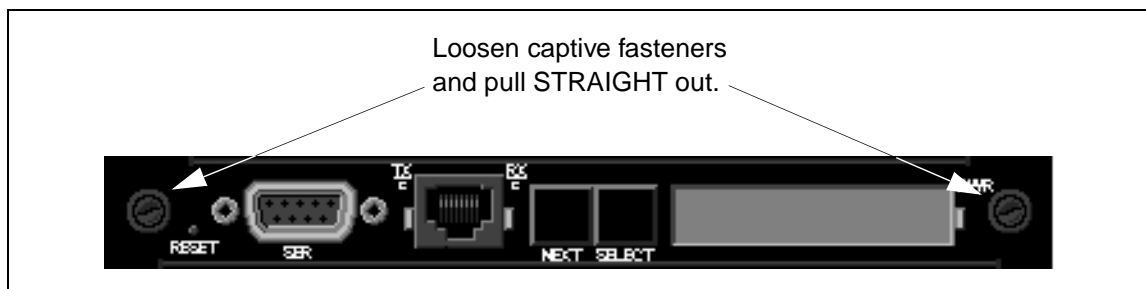

Figure 1 - Removal of an SCP
2. Pull the SCP firmly and carefully using the two captive fasteners, removing the SCP from the switch fabric as shown in Figure 1.